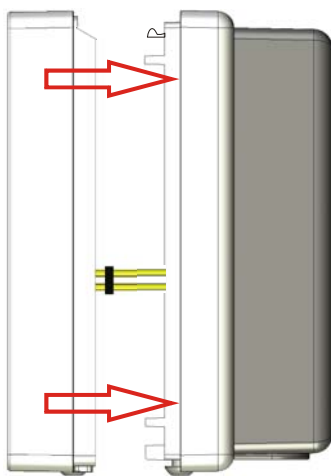

Fig. 4 Fitting of the housing cover
- Put the casing upper part straight onto its bottom part and snap it in. (see Fig. 4)